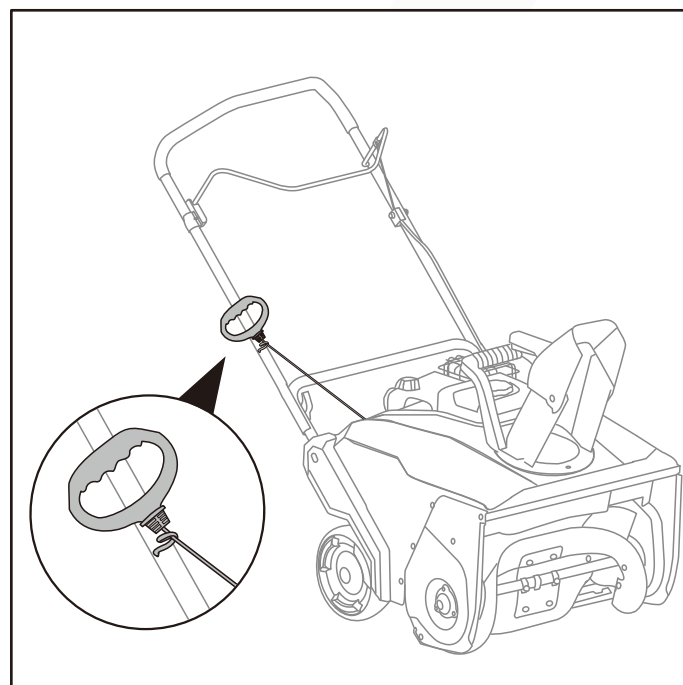

Fig.4
1. Slowly pull the recoil starter handle up towards the eye bolt. (Fig.4)
2. Slip the recoil starter rope into the eye bolt. (Fig.4)